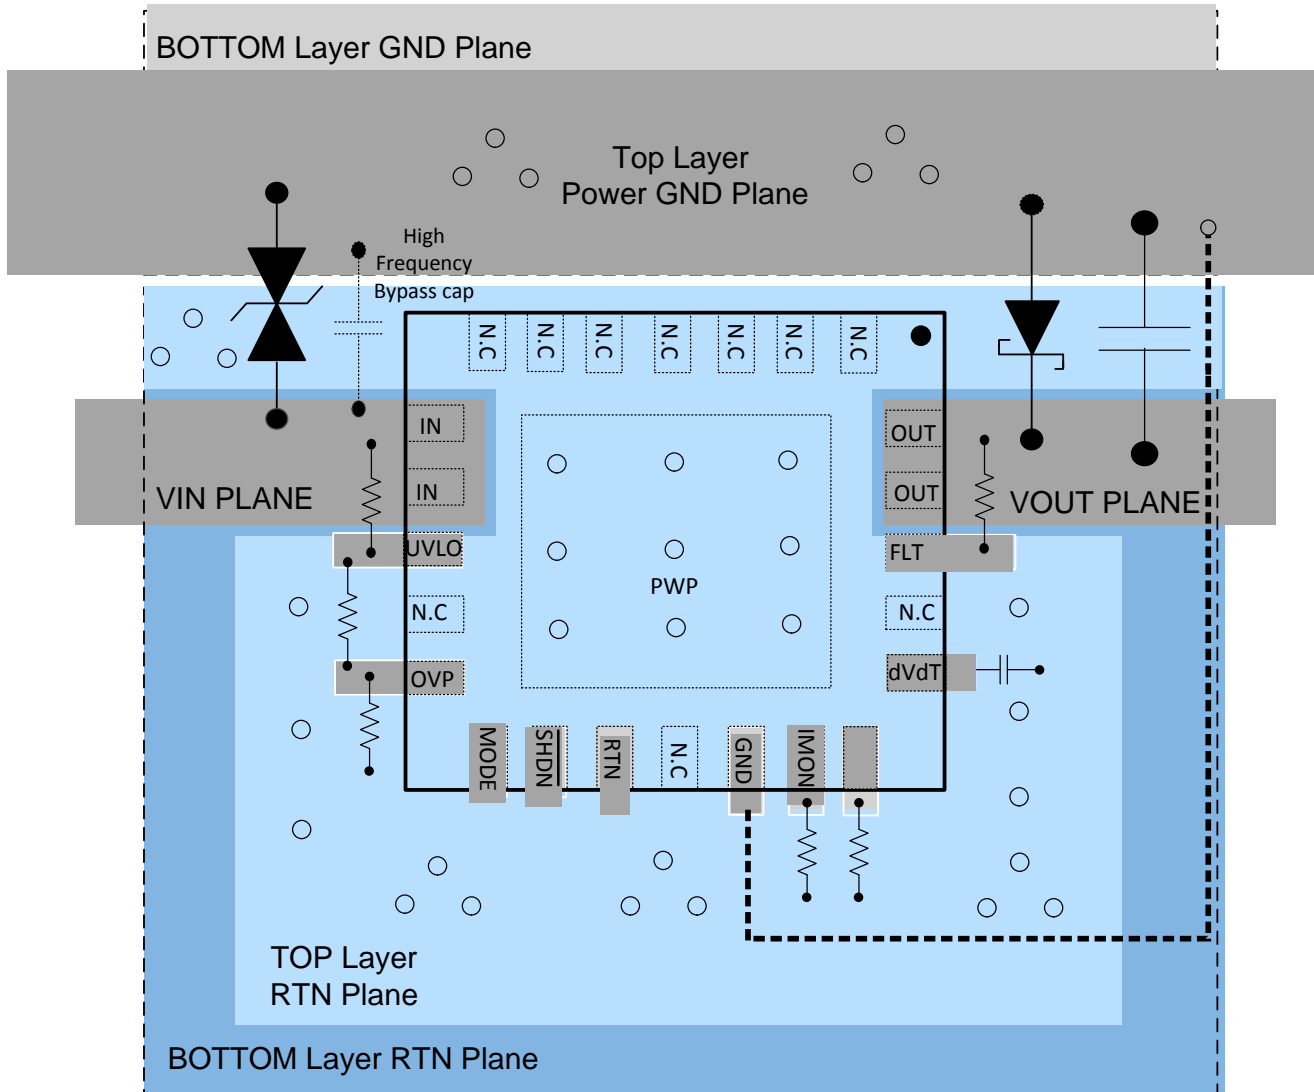

Figure 72. Typical PCB Layout Example with VQFN Package with a 2 Layer PCB
- The optimum placement of decoupling capacitor is closest to the IN and GND terminals of the device. Care must be taken to minimize the loop area formed by the bypass-capacitor connection, the IN terminal, and the GND terminal of the IC. See Figure 71 and Figure 72 for PCB layout examples with HTSSOP and VQFN packages respectively.